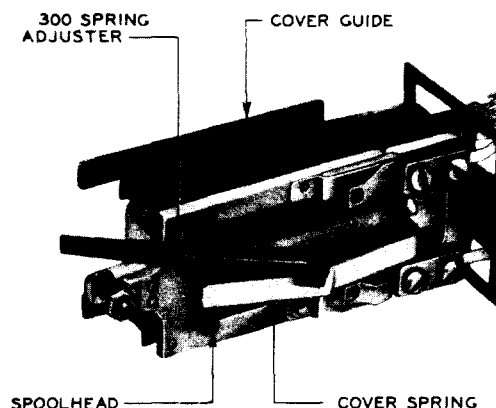

Fig. 11—Method of Adjusting Cover Spring Pressure
- (1) If the cover spring does not rest on the spoolhead or if the cover is not held securely on the relay, adjust the spring with the 300 spring adjuster applying it near the crook in the
the spring as shown in Fig. 11. If it is not possible to correct the condition in this manner, proceed as covered in (2).
- (2) Remove the relay from the mounting plate and remove the screws which hold the cover guide and cover spring in position using the 3-inch C screwdriver. Adjust the cover spring manually by bowing it at the crook in the spring. To adjust the cover guide after it has been removed, bend the part that is secured by the screws as required using the B long-nose pliers. Remount the cover guide and the cover spring, and tighten the mounting screws securely.
- (3) If the cover cap does not fit properly, adjust the cover cap prongs as required using the B long-nose pliers.